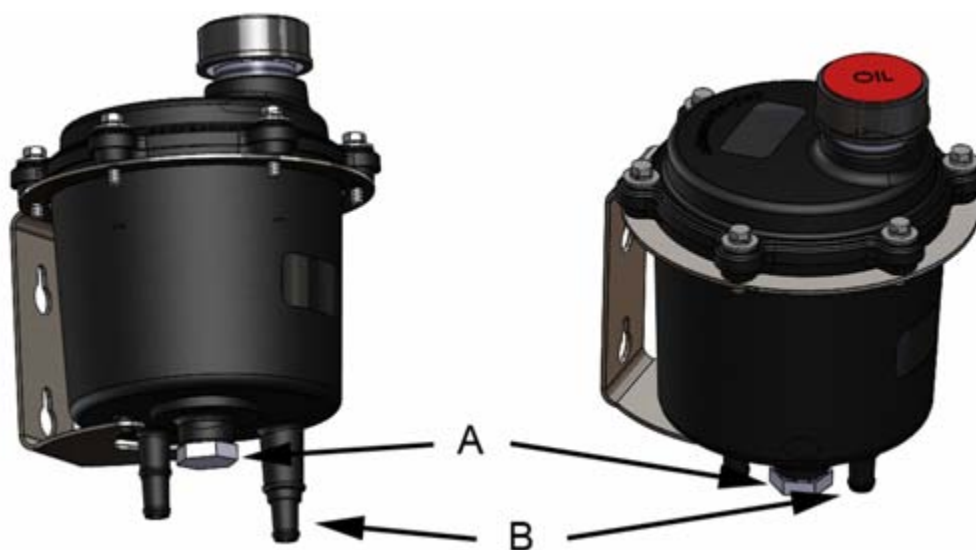

Figure 13. Drain plug magnet and oil return hose
The front bearing is oil-lubricated and the housing is secured with a mechanical sealing. When the shaft rotates, the oil circulates through the reservoir and impurities gather to the bottom of the reservoir on the drain plug magnet (figure 13, point A).
2. Open the drain plug (figure 13, point A) and drain the oil into the container.
4. Remove the reservoir return hose (figure 13, point B) and keep it below the reservoir.